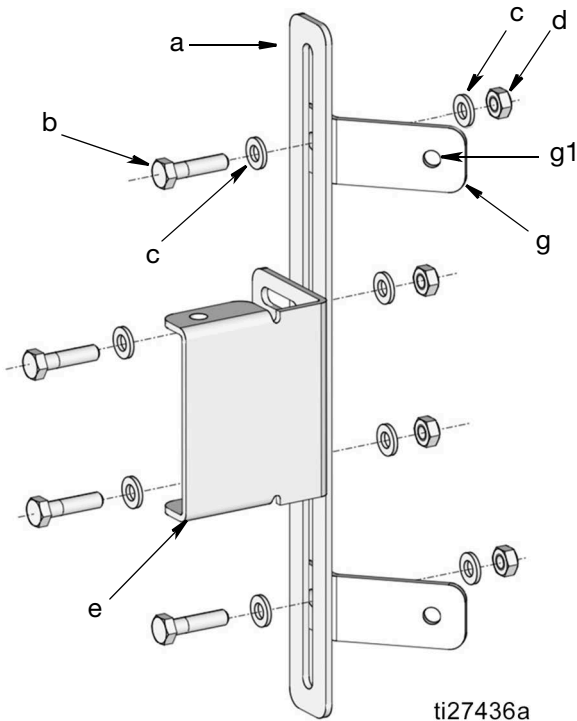

FIG. 45
- b. Install the GLC2200 mounting base plate (e) to the mounting bracket (a) using bolts (b), washers (c) and nuts (d) as shown in FIG. 45. Wrench tighten nuts securely.
- c. Install bracket fasteners (g) to mounting bracket (a) using bolts (b), washers (c) and nuts (d) as shown in FIG. 45. Fasten loosely to allow for final adjustment when installed to the Komatsu equipment.